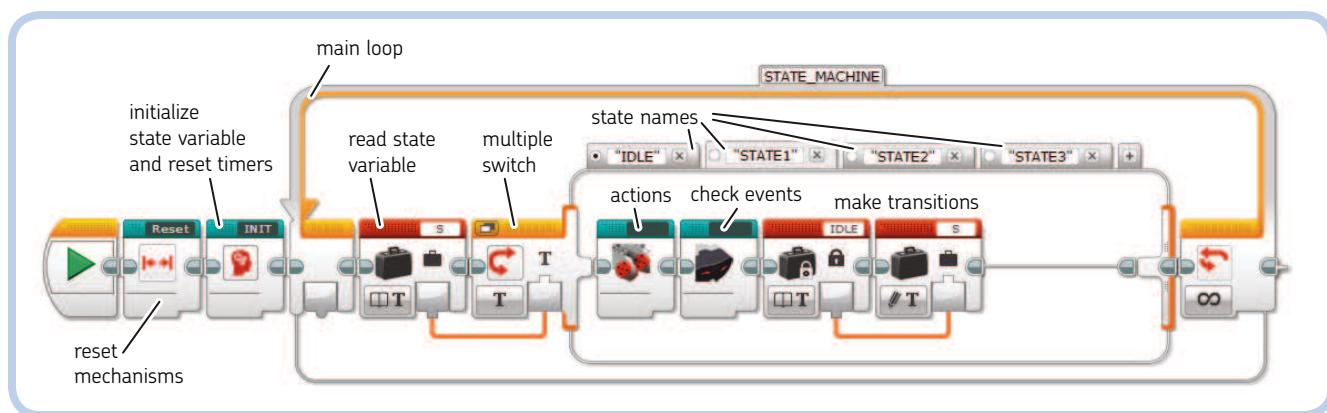

Figure 16-13: The generic implementation of a state machine using EV3 language
In this section, you'll learn how to implement a *state machine* (SM) using the EV3 software. Each abstract component of the state machine (states, transitions, events, and actions) will be represented by a sequence of programming blocks. (The program shown in Figure 16-13 is just a generic structure; you'll see how to implement the SM for the T-R3X in detail later on.)
A state machine can be implemented in EV3 language by following the generic structure of Figure 16-13. Before the main loop, you can reset the robot's mechanics, reset event timers, and initialize the *state variable S* by assigning the first state that the state machine should execute (such as the default state named IDLE).
The initial START state can be implemented by placing one or more My Blocks before the main program loop. In the generic program shown in Figure 16-13, the Reset My Block resets the robot's mechanisms, while the INIT My Block sets the initial value for the state variable, resets the timers, and chooses random timeouts for them.
Alternatively, you can make the state variable a text variable, so that you can just write the state name into it, such as IDLE, LOOK, and so on. If you use text variables when making a transition, be sure to write the exact name of the state into the state variable, or the machine will not behave as expected. It will be trying to reach a state that does not exist and will execute the default state (in this case, the IDLE state). The state variable in the generic program shown in Figure 16-13 is a text variable.